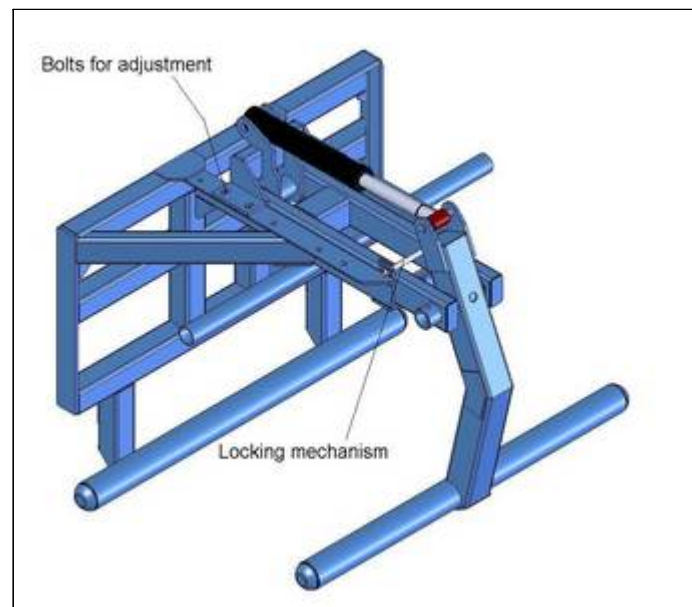

Figure 1. Locking mechanism to hold stacker secure when detached from the tractor.
- Remove the four bolts in the position indicated in Figure 1.